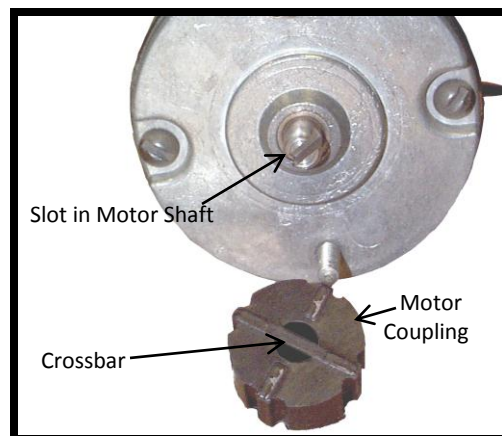

Figure 41: Motor Coupling to Motor Shaft Alignment
3. Pull the coupling off the motor shaft (Figure 41).
1. Align the crossbar on the new motor coupling with the slot on the end of the motor shaft (Figure 41), and push the coupling onto the shaft. **Note:** The coupling is symmetrical- either side can be placed on the shaft.